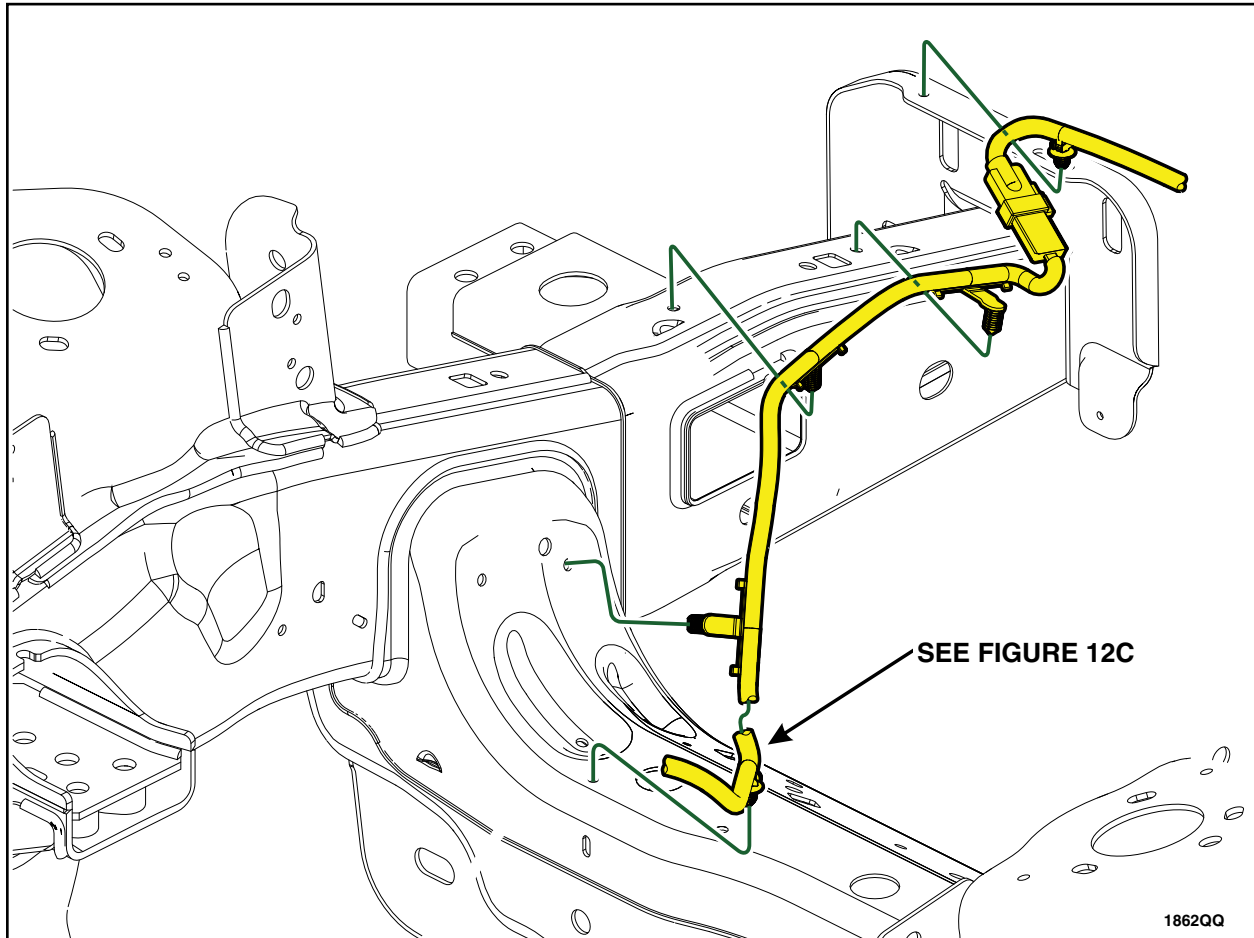

FIGURE 12b
7. Connect the wire assembly in-line connector. See Figure 12b.